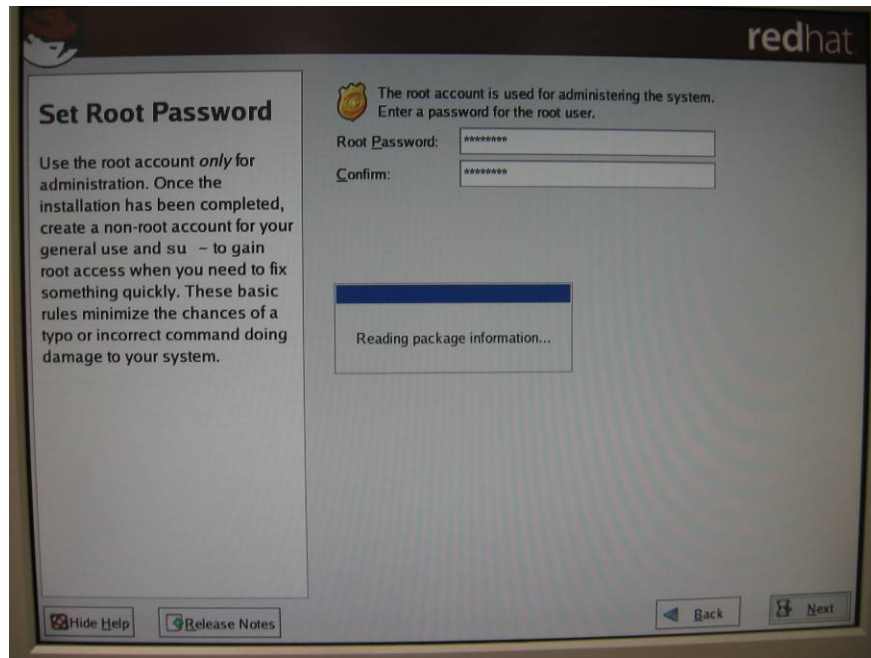

Figure 5-18 Set Root Password (Confirmation)
7. No changes are necessary for PCI Configuration. (Figure 5-18)